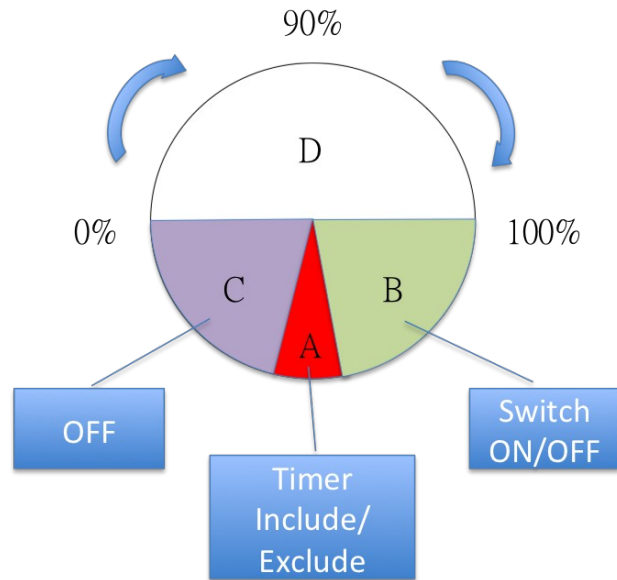
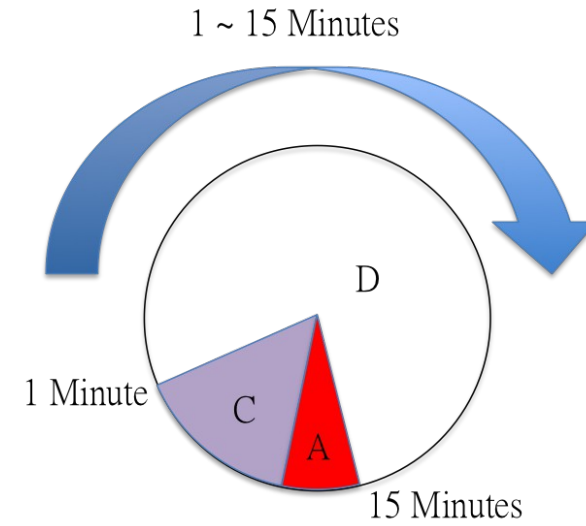

Figure 1
Figure 2
In the first time, add the device into the Z-Wave™ network. Make sure the primary controller is in the add mode. And then power on the device through micro USB. The device will auto start the NWI (Network Wide Inclusion). Red LED will flash every second and continue 30 seconds. And it should be included in 5 seconds. Red LED will light ON one second. Rotating to area A (shown in Fig. 1) and touch 3 times can abort NWI mode.
1. Include: Pointing the arrowhead to area A first (shown in Fig. 1). Pressing the button three times within 1.5 seconds. The red LED will light up for 1 second if succeed.
This device can control dimmers in group 2 using three ways: Dimmer, Timer, and On/Off Switch. Point the arrowhead to area A (shown in Fig. 1 and Fig. 2) then hold the button, release after the red LED go out. One beep means entering Timer mode or two beeps means entering Dimmer mode. The device can switch to Binary Switch mode automatically when fitting horizontal.
angle. When the status is Off, surround LED will not work except in area A (shown in Fig. 1). Rotate the device to area B, C, D (shown in Fig. 1) then touch the button can set the status to On. After a short beep, the surround LED will change gradually from blue to red in area D. It will send Basic set command automatically 1 second after rotating stop. To turn Off the device in group 2, you can rotate PSR04 to area C or touch the button again.